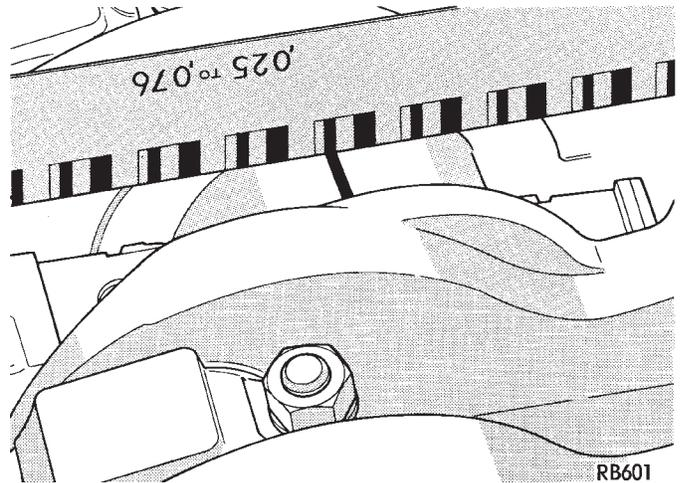

Fig. 16 Connecting Rod Checking Bearing Clearance
(1) Following procedures specified in the Standard Service Procedures Section for Measuring Main Bearing Clearance and Connecting Rod Bearing Clearance. (Fig. 16). Refer to (Fig. 18) for specifications.
(2) Tighten nuts to 52 N·m (38 ft. lbs.).
(3) Remove connecting rod cap and measure Plastigage (Fig. 16).